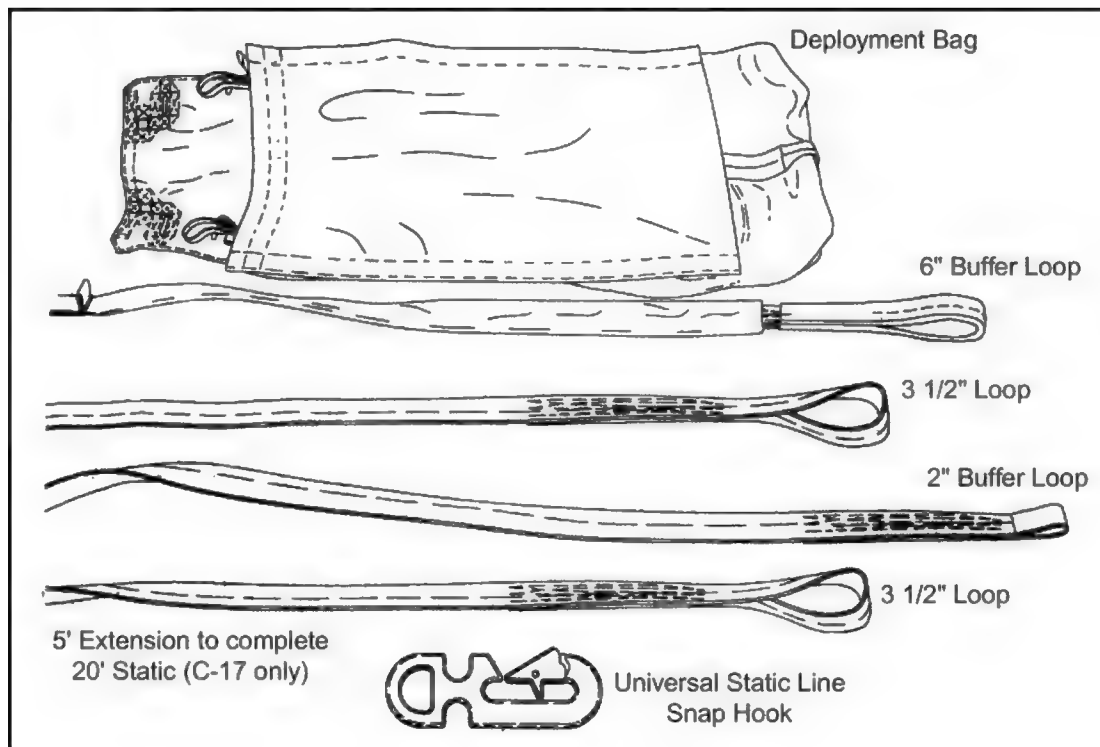
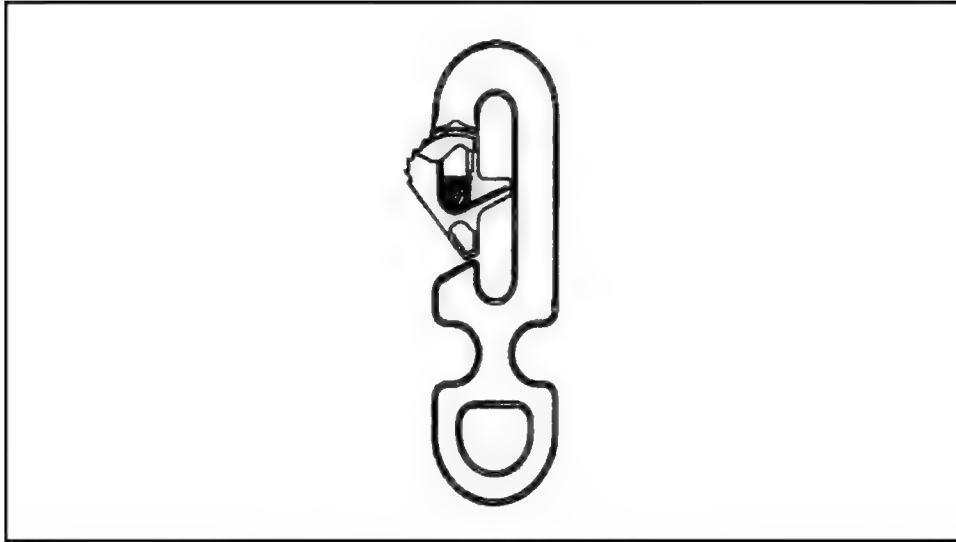

Figure 2-4. Static line extension.
Figure 2-5. Static line snap hook.
a. **Universal Static Line.** A 15-foot universal static line (USL) is secured to the D-bag by a girth hitch. The opposite end of the USL has a snap hook, which is also secured by a girth hitch. To configure the USL to the 20-foot length, the snap hook is removed and the extension is secured to the USL by a girth hitch. The snap hook is then secured to the opposite end of the extension. The length of the 15-foot static line after being secured to the deployment bag and snap hook is 14 feet 7 inches. The 20-foot configuration is 20 feet 1 inch long. There are four separate components to the USL, which must be purchased separately: deployment bag, static line, static line extension (Figure 2-4), and static line snap hook (Figure 2-5, page 2-6).
d. **Static Line Extension.** The static line extension is 70 1/2 inches long (+ - 1/2 inch) (Figure 2-4). It is made from the same webbing as the static line.
e. **Snap Hook.** The snap hook is 5 1/2 inches long, approximately 1/4-inch thick, and weighs 0.67 pounds (Figure 2-5, page 2-6). It is made from alloy steel with Dacroment 320, grade A plus L finish for abrasion/humidity/salt/fog protection. The finish is environmentally compliant and a standard in the automotive industry. The snap hook gate and rivet pin are made from the same alloy steel, whereas the pullback spring is made from steel spring wire. The snap hook is rated to withstand a 1,750-pound load and has an ultimate failure rate of no less than 8,000 pounds.